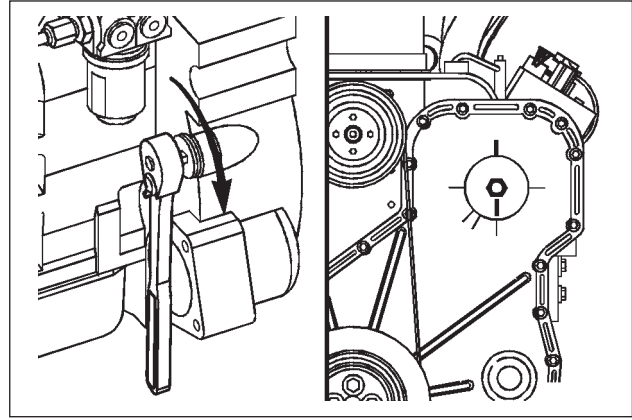

FIG. 6
1. The TDC mark on the fuel pump gear should already be at 180 degrees from TDC. The mark on the fuel pump gear should be in the 6 o'clock position on the gear cover. In this position the engine brake slave lash on cylinders 2, 4, and 6 can be set. (Fig. 6)